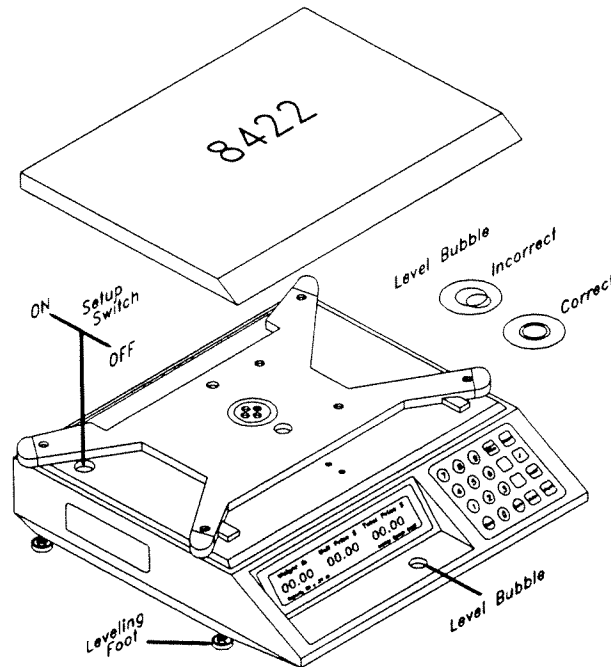

Figure 2.5 8422 Setup
- 2.2.2 Place the scale on the area it will be used. The area must be a flat solid surface that is relatively level. Adjust the scale level using the adjustable feet on the base and the level bubble as a guide, as shown in Figure 2.5.